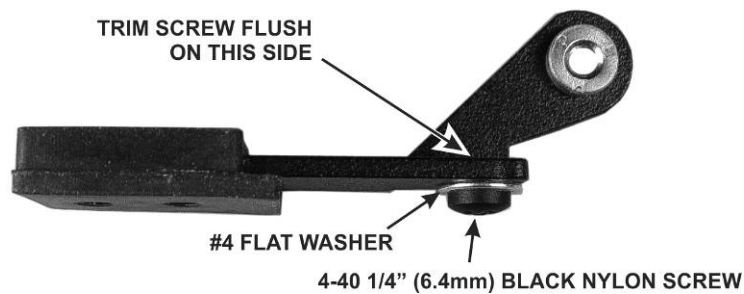

Figure 41. Placing Nylon Bumpers on the Tilt Legs.
- Install a flat washer and black nylon screw on each tilt leg as shown in Figure 41. Note the orientation of the screw as well as the rubber foot that you installed earlier. They must be as shown for the foot to work properly.